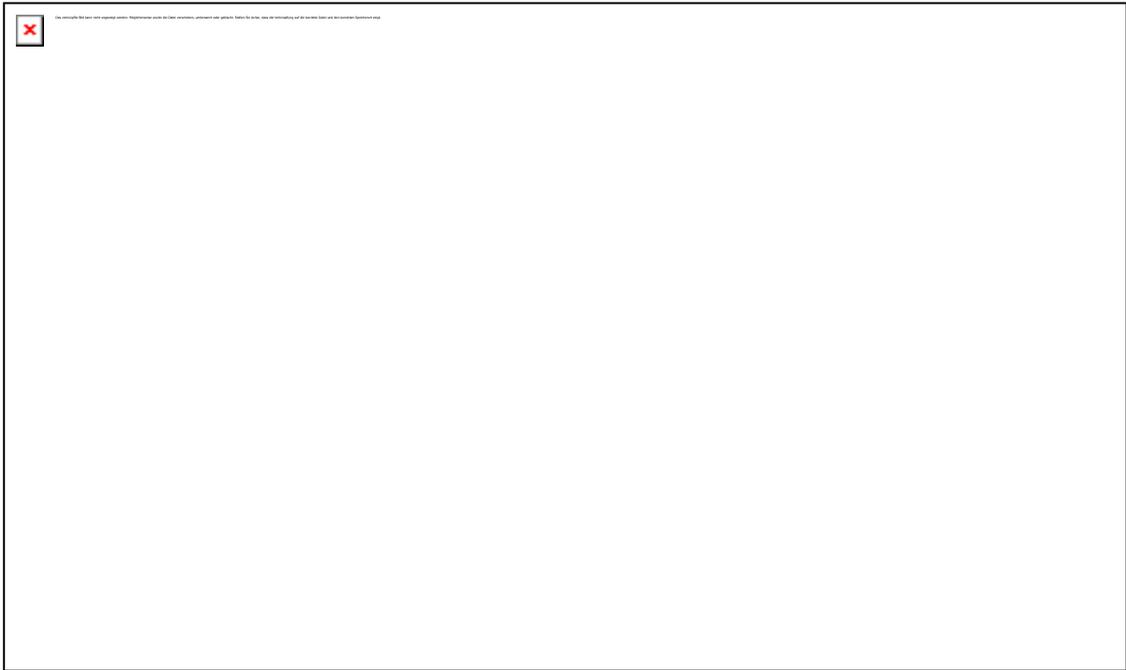

Figure 6-10 Access to PT50xx through a browser
- (1) Start up Internet Explorer.
- (2) Input <http://192.168.1.140/> in the address zone and then press ENTER to finish inputting.
- (3) The startup screen of Web server is shown as figure 6-10.